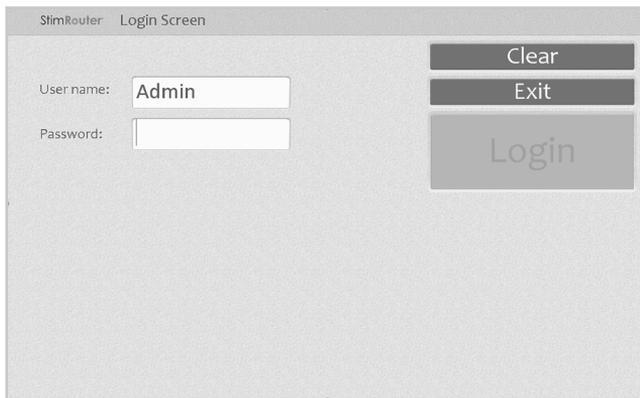

Figure 7-3: The Clinician Programming Software Login Screen
2. If the login screen does not open automatically, then, press “Start” and then “StimRouter Plus” to open the clinician programming. Wait for the login screen to load. See Figure 7-3.